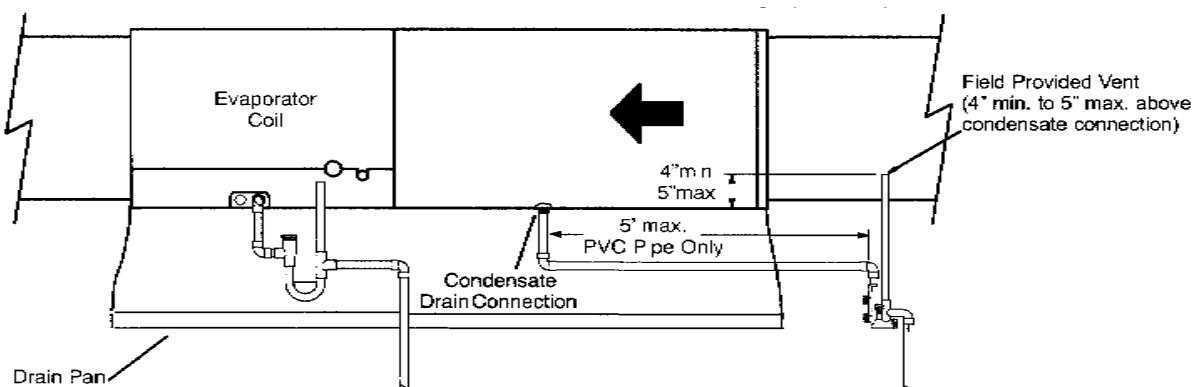

Figure 51
5. Figures 51 and 52 show the furnace and evaporator coil using a separate drain. If necessary the condensate line from the furnace and evaporator coil can drain together. See Figure 54 and 55)
Horizontal furnace (Figure 51) - In horizontal furnace applications the field provided vent must be minimum 4" to a maximum 5" length above the condensate drain outlet connection. Any length above 5" may result in a flooded heat exchanger if the combined primary drain line were to become restricted.